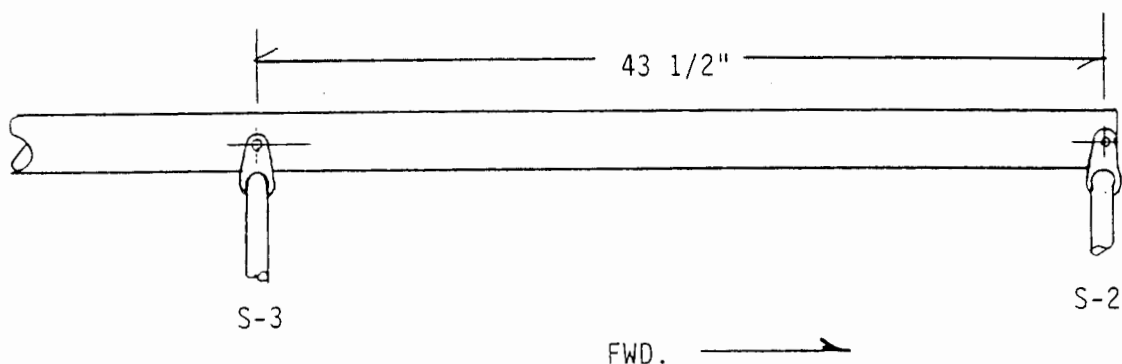

FIGURE 08-03
3. Again space off the keel 1/8" from the cluster as in step 2. Move the S-3 cluster fore or aft until there is exactly 43 1/2" between 1/4" hole centers and drill 1/4" from each side. See Figure 08-03.